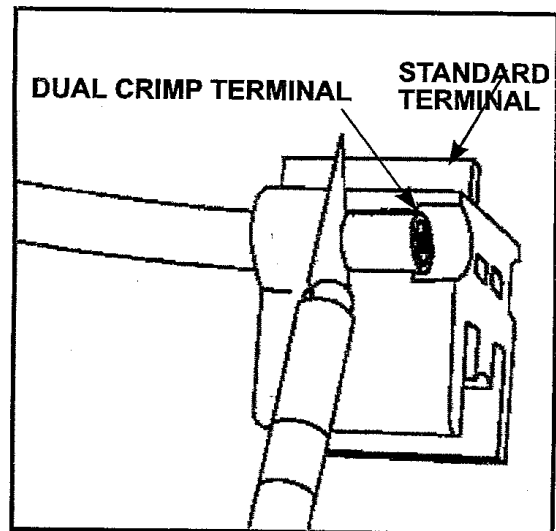

Figure 2 Stripping the sleeves
2. There are two stripping positions indicated on the stripping slot, depending on the terminal being used. Slide the wire to the correct position and strip the sleeve by holding a razor blade flush with the strip guide and rotate the wire 360° (Figure 2).